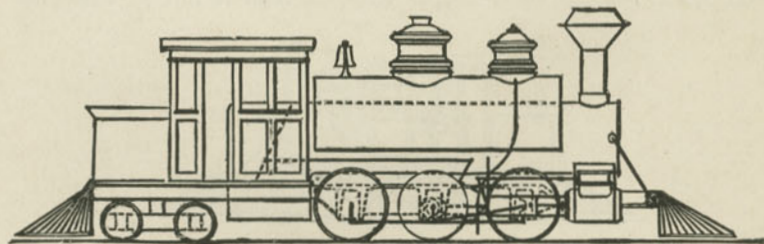

Fig. 16. Heavy Switching and Local Freight Engine, with Saddle Tank and Back Tank.
*A.* They usually have two or three driver pairs, short wheel-base and no truck, if for switching only, and seldom have tenders, the fuel and water being carried on the engine; if they do, the tenders have instead of two trucks, only two wheel pairs. Such an engine with three pairs of drivers may be seen in Fig. 16.
tioned, as used for light switching, etc.; or a double-ended engine with back tank borne on a four-wheel truck, and having six wheels coupled. A third class is a double-end, with both a saddle tank and a back tender, the latter being borne by a four-wheel truck, there being six wheels coupled. (See Fig. 16.)